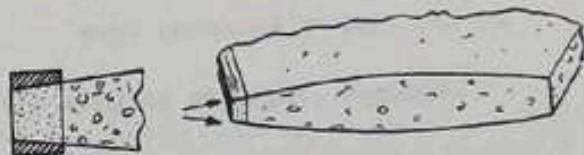

Fig. 5
5. After the epoxy has cured, shape the trailing edge to the contour of the airfoil with a razor plane and sanding block. See figure 5. NOTE: Always use 80 - 150 grit fresh sandpaper on a block 12" to 18" long for all wing shaping.
20. Lay aside the wing and lightly sand the stabilizer cores and vacuum. Weight and align the stab in the foam saddle on the work surface as you did the wing in step 3. Attach the $1/4"$ x $3/8"$ balsa trailing edge and sand to the airfoil contour as in figure 5. Glue $1/16"$ balsa sheeting in place using the procedure described in steps 4 through 11. Epoxy the $3/8"$ x $1/2"$ leading edge in place, and shape as in figure 7.